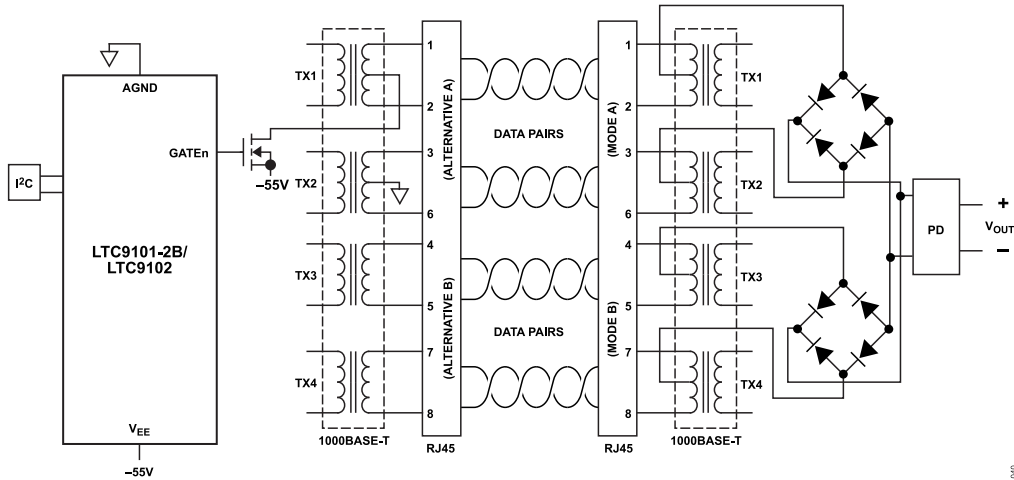

Figure 36. 802.3bt System Diagram—2-Pair PSE and Single-Signature PD
Common Ethernet data connections consist of two or four twisted pairs of copper wire (commonly known as Ethernet cable), transformer-coupled at each end to avoid ground loops. PoE systems take advantage of this coupling arrangement by applying voltage between the center taps of the data transformers to transmit power from the PSE to the PD without affecting data transmission. Figure 36 shows a high level PoE system schematic.
- ▶ Type 3 and 4 PDs can be formed as either a single-signature PD or dual-signature PD. A single-signature PD presents the same valid signature resistor to both pairsets simultaneously (see Figure 36). A dual-signature PD presents two fully independent valid detection signatures, one to each pairset.
In 802.3at, only one PD configuration was described; this is known as a single-signature PD and is shown in Figure 36. A single-signature PD presents the same 25k detection resistor to both the pairsets in parallel.